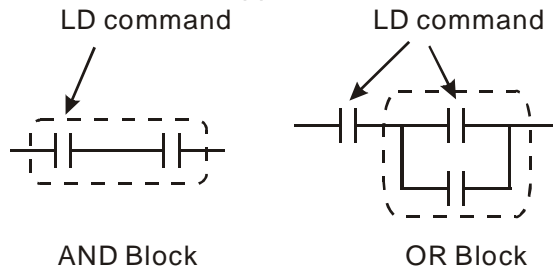

Figure 16-30
**LD (LDI) command:** an LD or LDI command appears at the start of a block. See Figure 16-30.